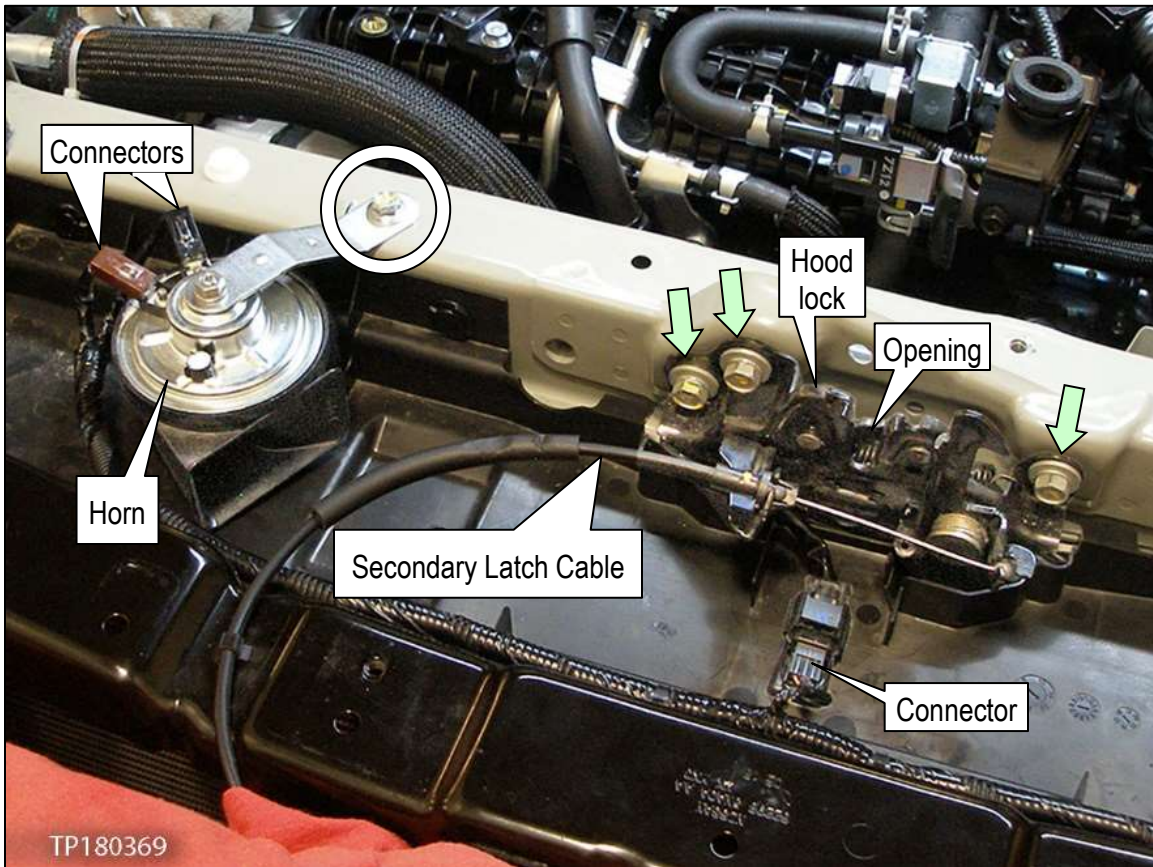
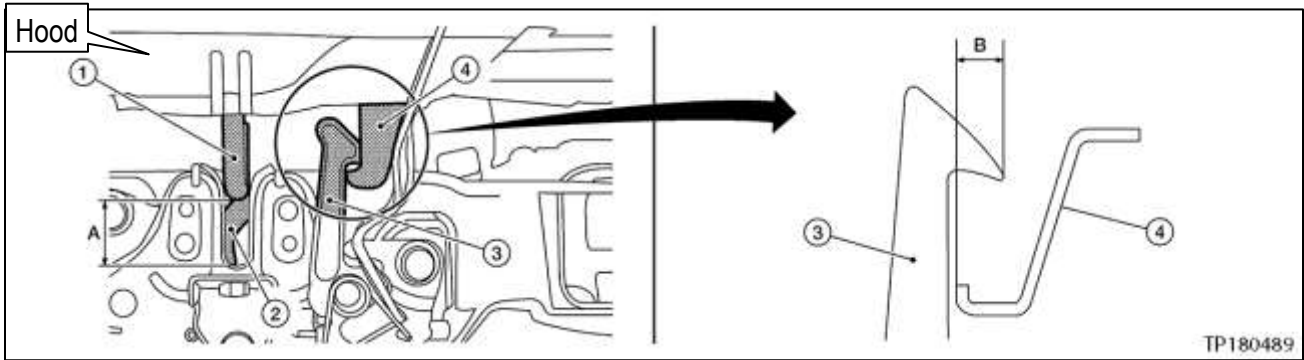

Figure 78
Figure 79
- b. Install the three (3) bolts (see arrows in Figure 78).
- a. Visually align the primary striker (1) in the hood with the opening in the hood lock (2) as best as possible by lowering the hood, bringing the two parts close together, and then tighten the hood lock bolts.
- See Figure 78, and Figure 79 on the next page.
- b. Adjust **A** and **B** with the hood's own weight by dropping it from approximately 200 mm (7.87 in) height (see Figure 79, and the specifications below it, on the next page).
- a. Install the bolt (see circle in Figure 78).
- b. Connect the two (2) electrical connectors.